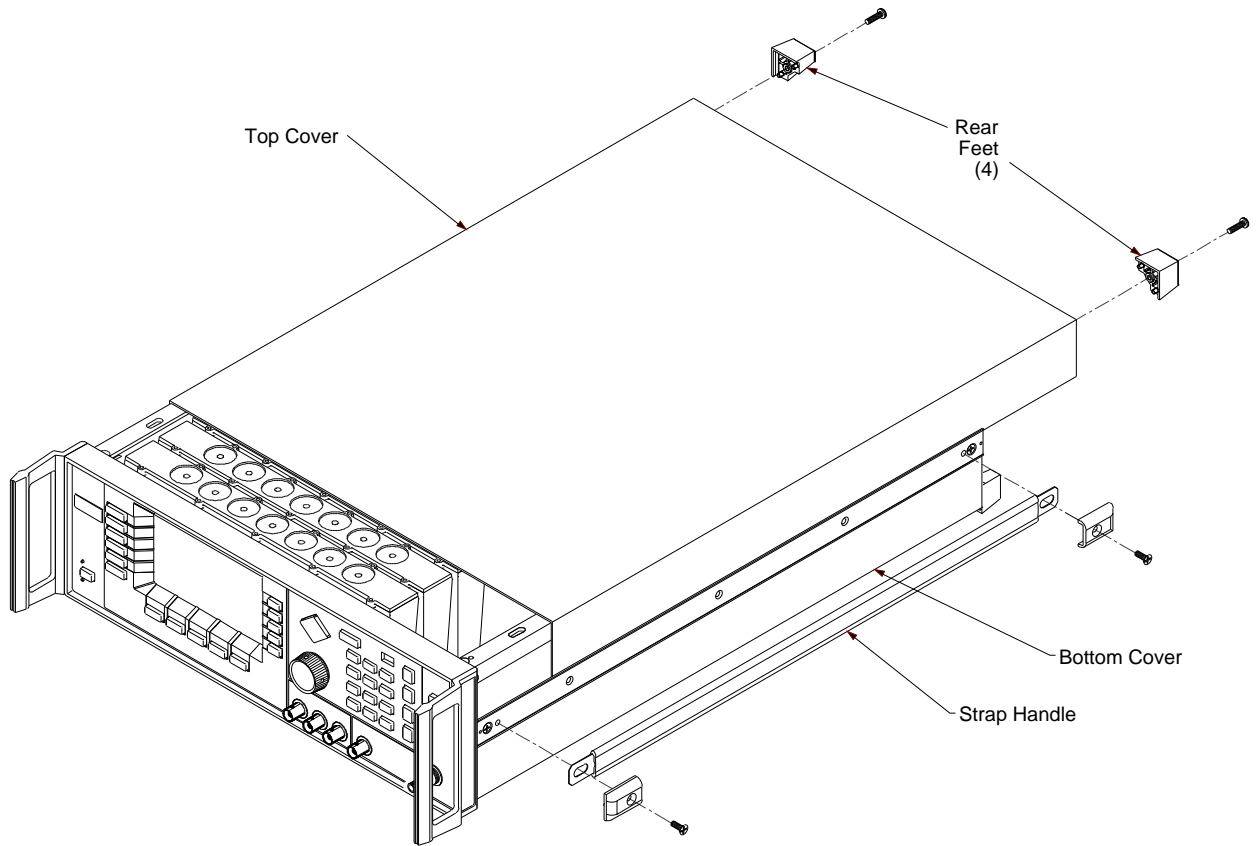

Figure 6-1. Top Chassis Cover Removal
Step 1 Loosen the screws and remove the two feet from the top corners at the rear of the instrument (Figure 6-1).
- Step 2** Remove the screw and end cap from the front of each of the strap handles (see Figure 6-1).